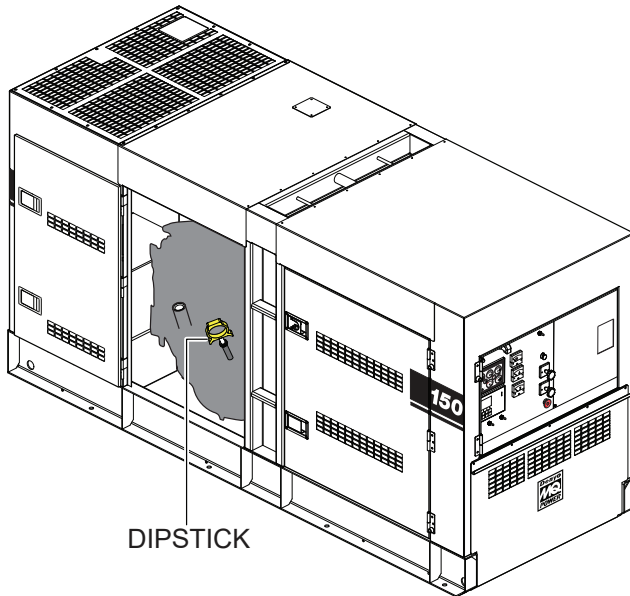

Figure 35. Engine Oil Dipstick Location
2. Remove the dipstick from its holder (Figure 35) and wipe it clean.